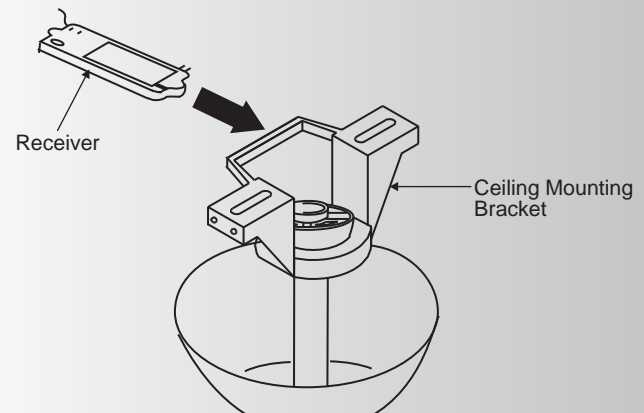

Fig. 13
Step 1. Insert the receiver in the ceiling mounting bracket with the flat side of the receiver facing the ceiling. (Fig. 13) For best performance, make sure the Black Antenna, on the end of the receiver, remains extended and not tangled with any of the electrical wires.